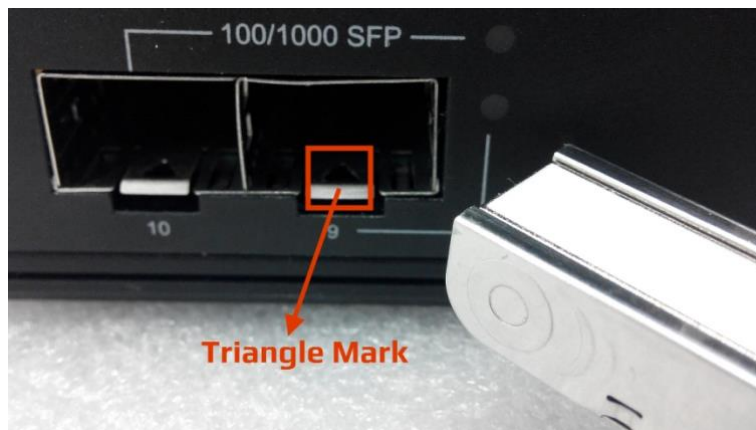
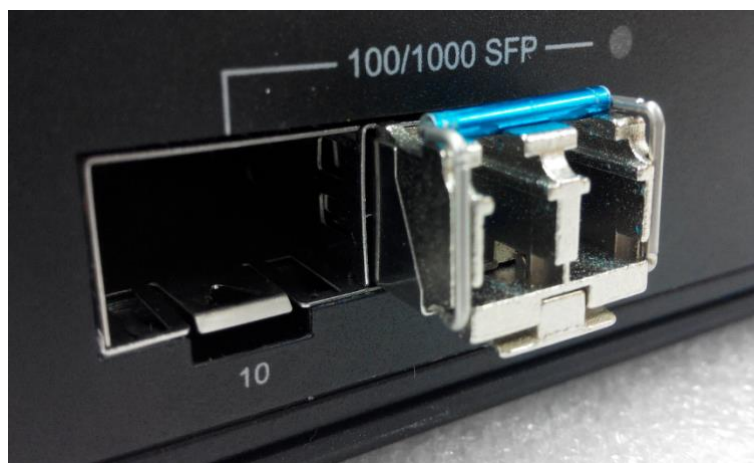

Figure 2.7: Transceiver to the SFP Module
Figure 2.8: Transceiver Inserted
Step 1 Insert the SFP transceiver module into the SFP slot as shown below in Figure 2.7. Notice that the triangle mark is at the bottom of the SFP slot. Figure 2.8 shows SFP transceiver module was inserted.